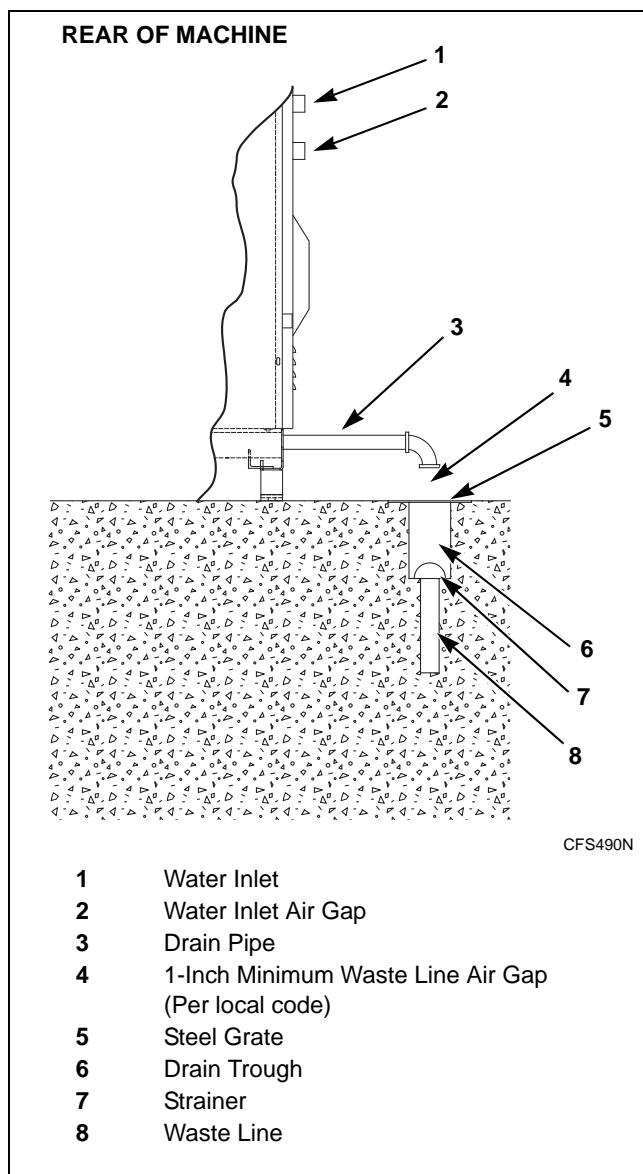

Figure 33
*Figure 33* shows drain line and drain trough configurations.